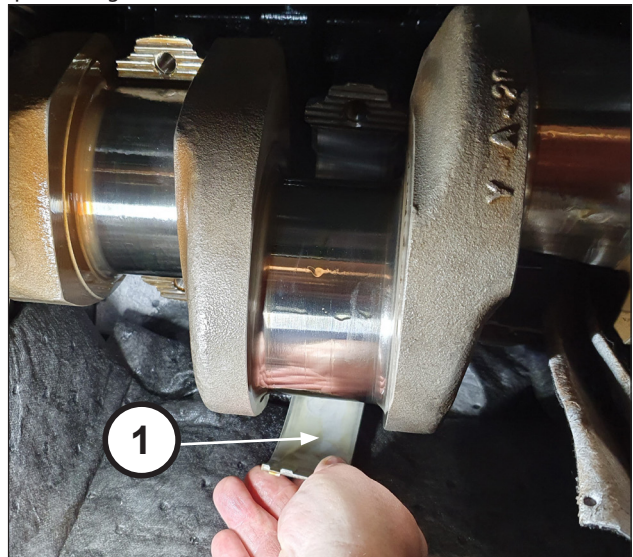

Fig. 33
Remove the three upper half-bearings of the half-conrods (pos. ①, Fig. 33).